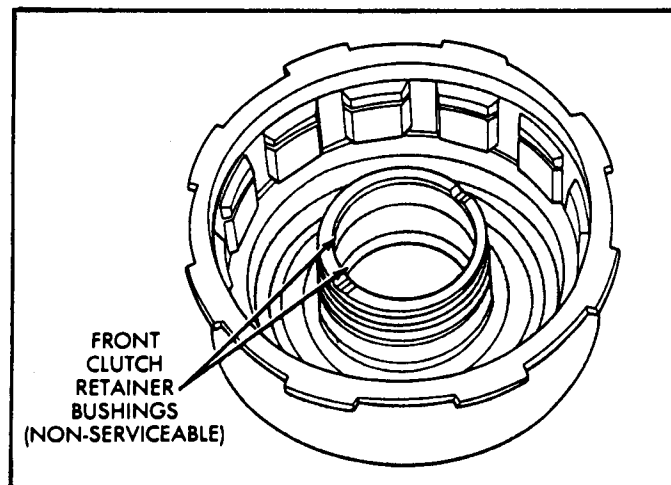

Figure 60
3. Inspect the bushings in front clutch housing for wear or damage. Bushings for this location are not serviced. (See Figure 60).